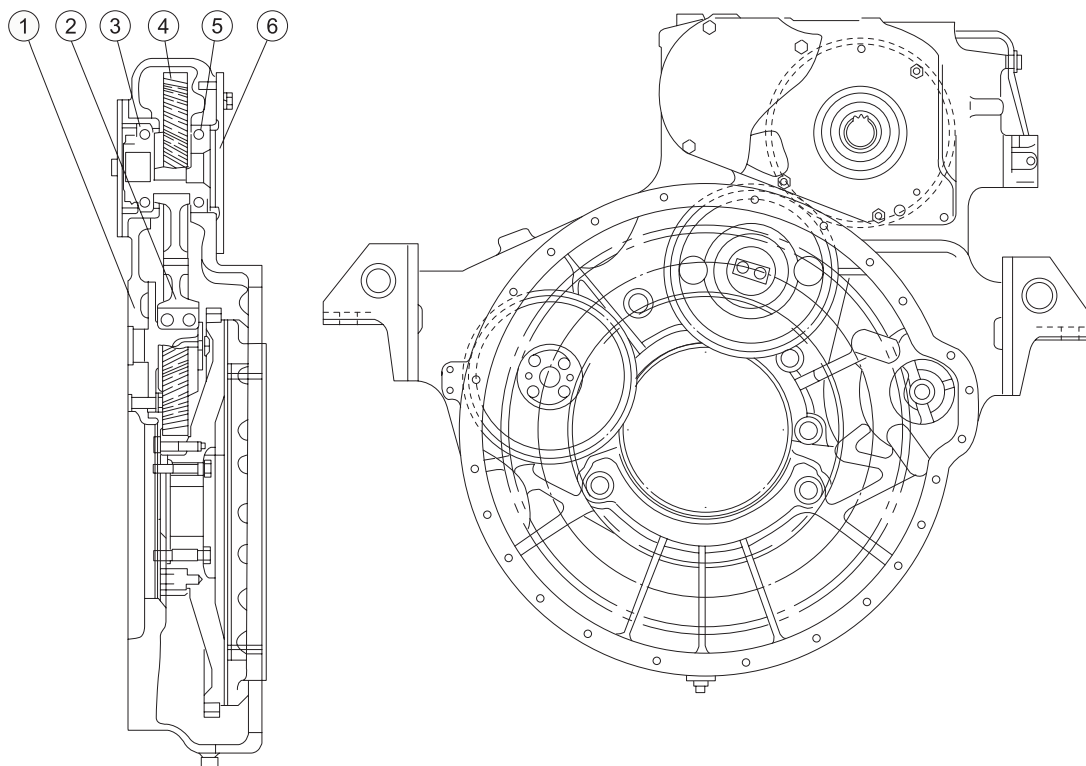

Figure 3-7
1. FLYWHEEL HOUSING ASSEMBLY (SEE FIGURE 3-7)